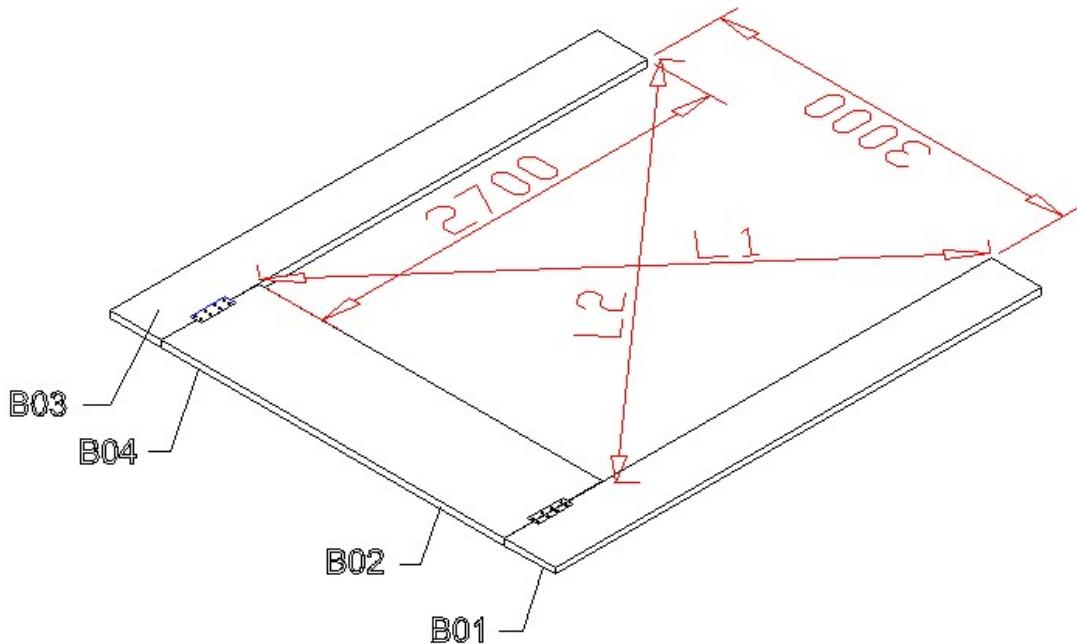

Fig. 3.6
Installate the front door frame (shown in Fig.3.6)
- 2) Measure the diagonal of the length and width, when they are suitable for the demand of the door frame size (shown in Fig.3.6),  $L1=L2$ , fix the door frame with appoint connect board (B04). Pay attention to that check the sizes of the door frame after fixing.